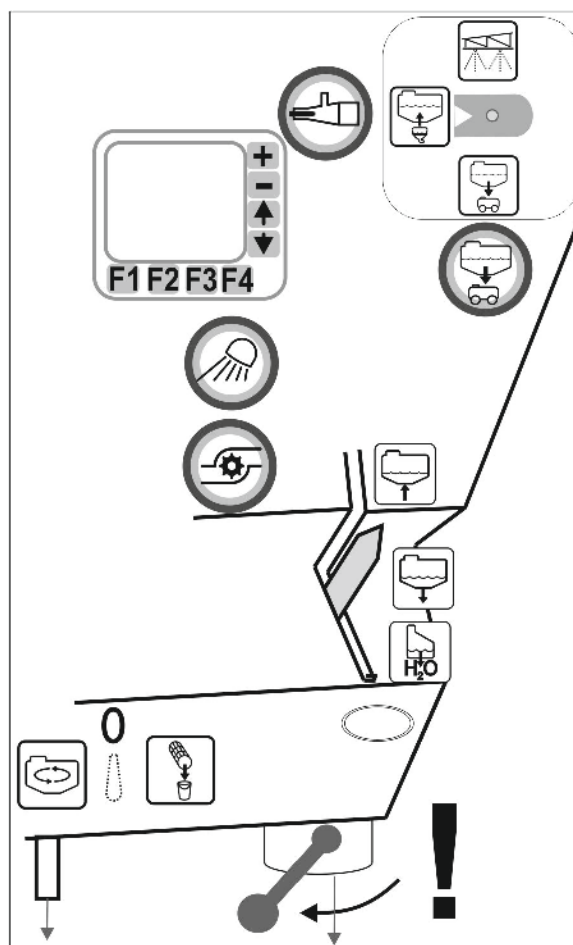

Fig. 141
- Clean the suction filter(Fig. 141) on a daily basis after cleaning the field sprayer.
- Grease the O-ring seal at the bottom of the suction filter (Fig. 141/4).
1. Unscrew the cover of the suction filter (Fig. 141/2).
2. Remove the cover with suction filter (Fig. 141/3) and clean with water.
6. Unscrew the cover of the suction filter (Fig. 141/2).
7. Activate the relief valve on the suction filter (Fig. 141/1).
8. Remove the cover with suction filter (Fig. 141/3) and clean with water.